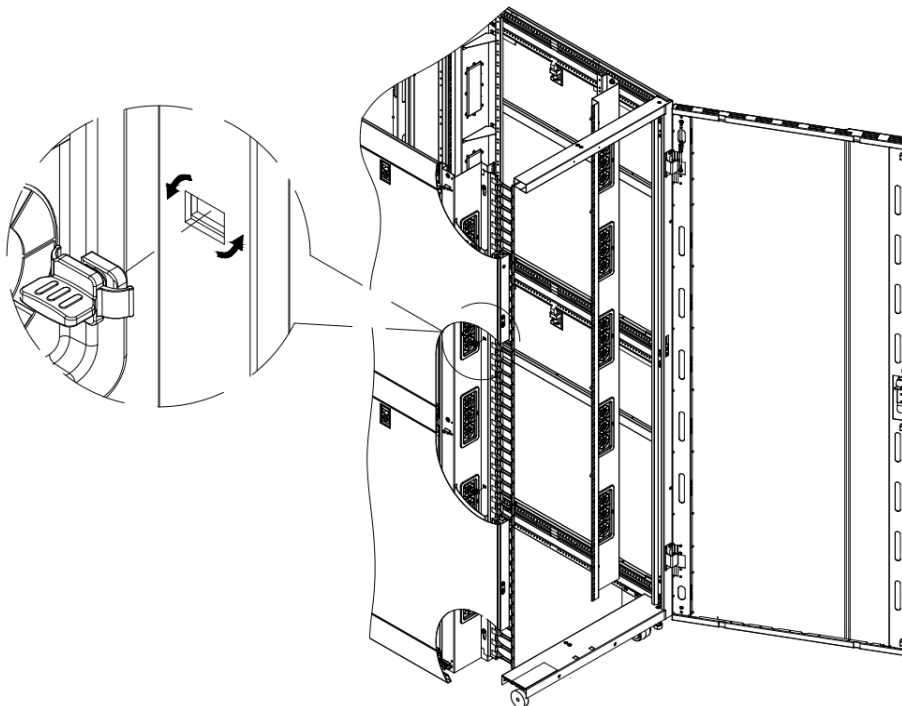

Figure 6.5.7
- Fix the cable manager with two plastic swivel buckles (③) to complete the installation of the cable manager. (Figure 6.5.7)